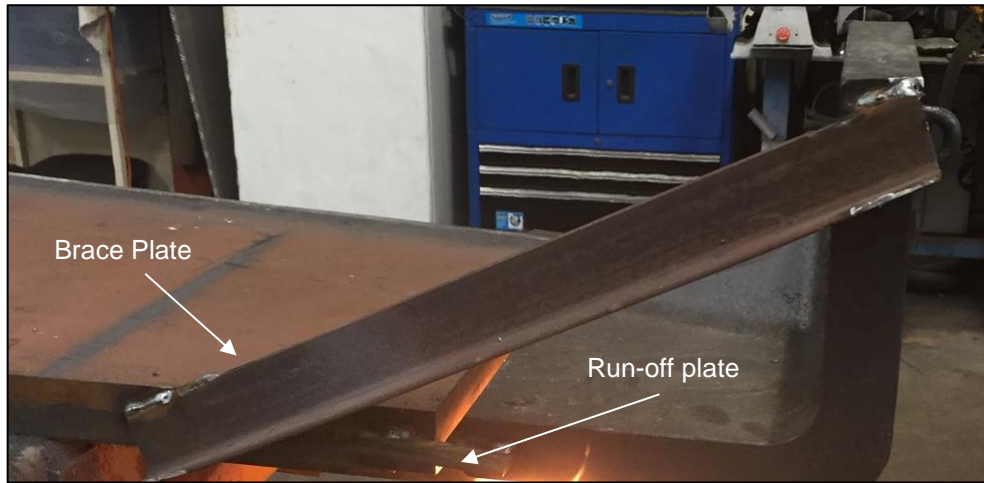

Figure 11 Run-off and Brace plates
2.5.1. Attach run-off tag and 30 degree brace connecting the rear of the plate and the cast corner at appropriate pre-heat conditions. Brace plate is added to prevent the Cast Corner movement. Refer Figure 11.